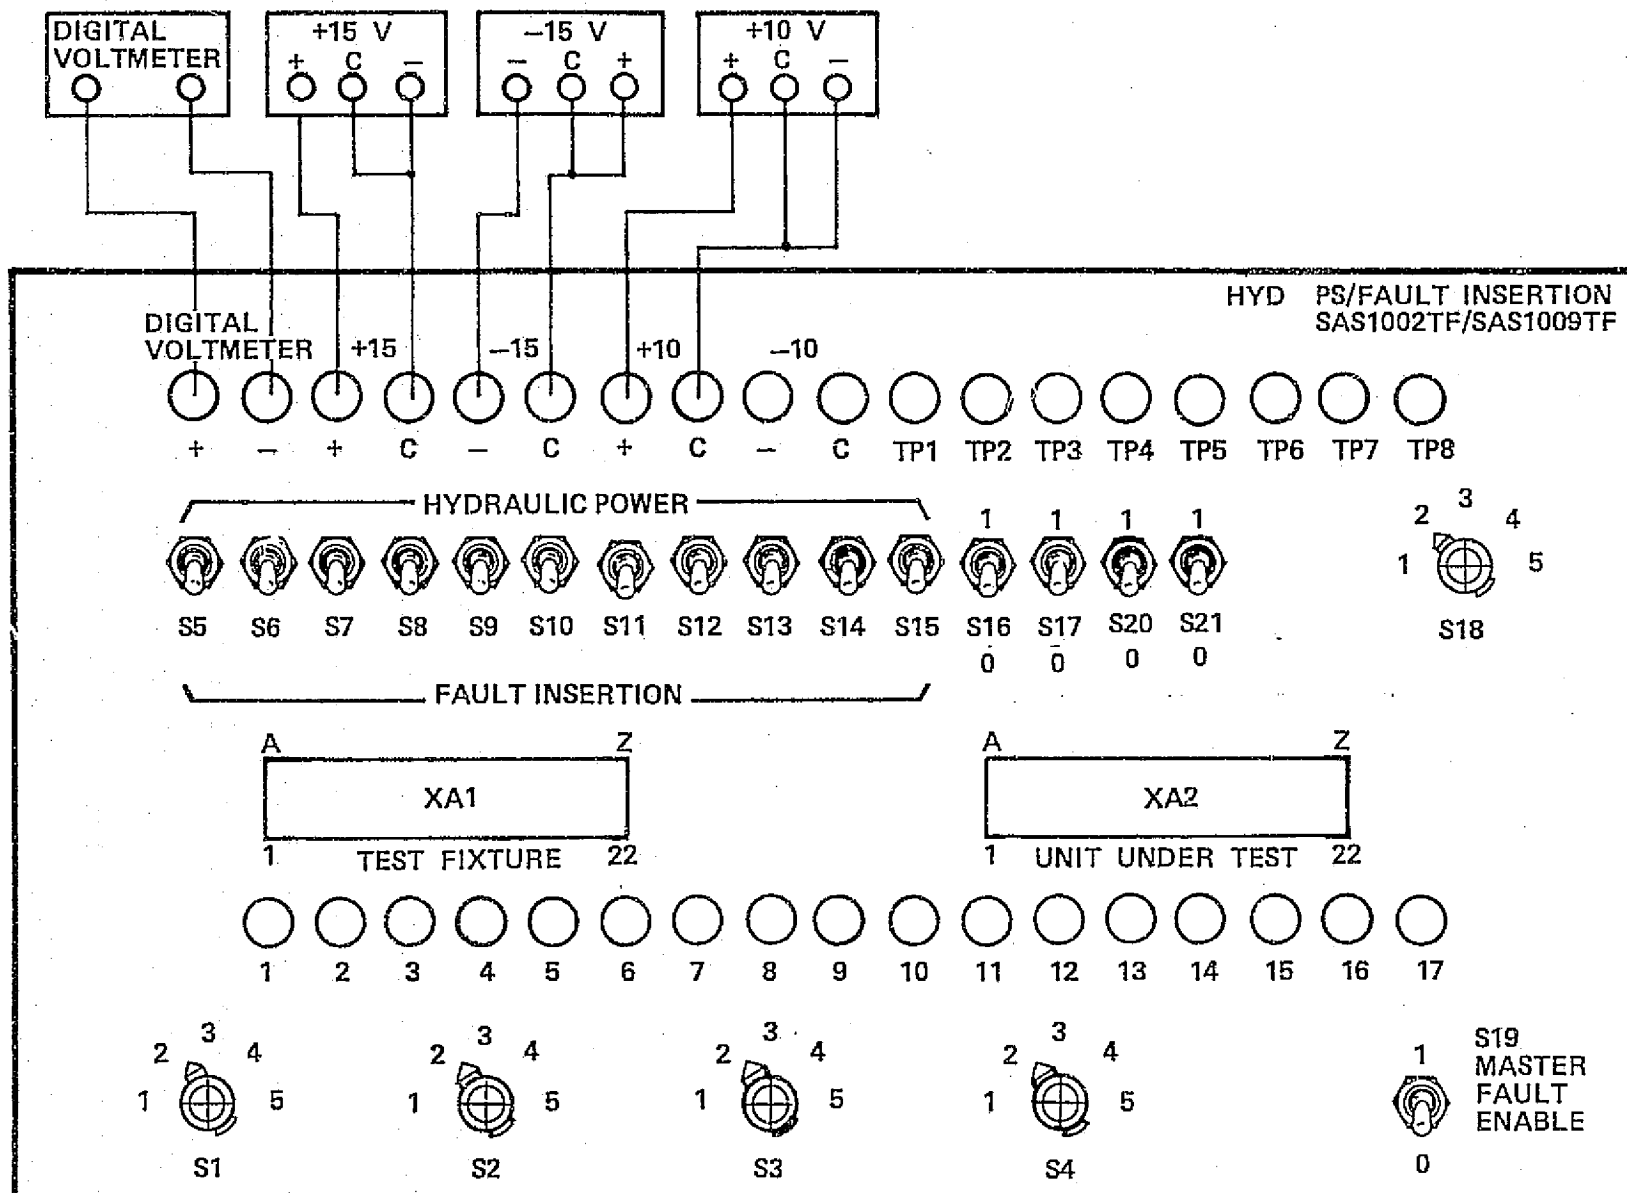

Figure 1. - Test interconnection.
1. Insure that all power supplies to be used are turned OFF and voltage adjustment knobs are set to minimum voltage. Connect +15, +10, and -15 Vdc supplies as shown in figure 1. Set switches S5 through S17 to hydraulic pressure. Set S16 and S17 to 0, S20 and S21 to 1.